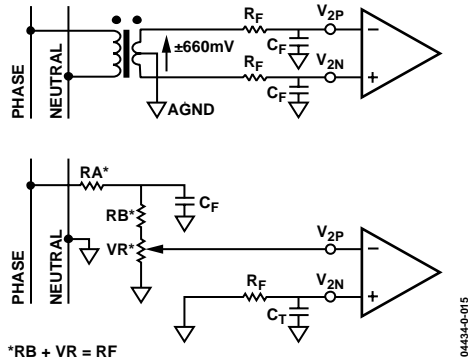

Figure 12. Typical Connection for Channel 2
Figure 12 shows two typical connections for Channel V2. The first option uses a potential transformer (PT) to provide complete isolation from the main voltage. In the second option, the ADE7760 is biased around the neutral wire, and a resistor divider is used to provide a voltage signal that is proportional to the line voltage. Adjusting the ratio of  $R_A$  and  $R_B + V_R$  is a convenient way of carrying out a gain calibration on the meter.